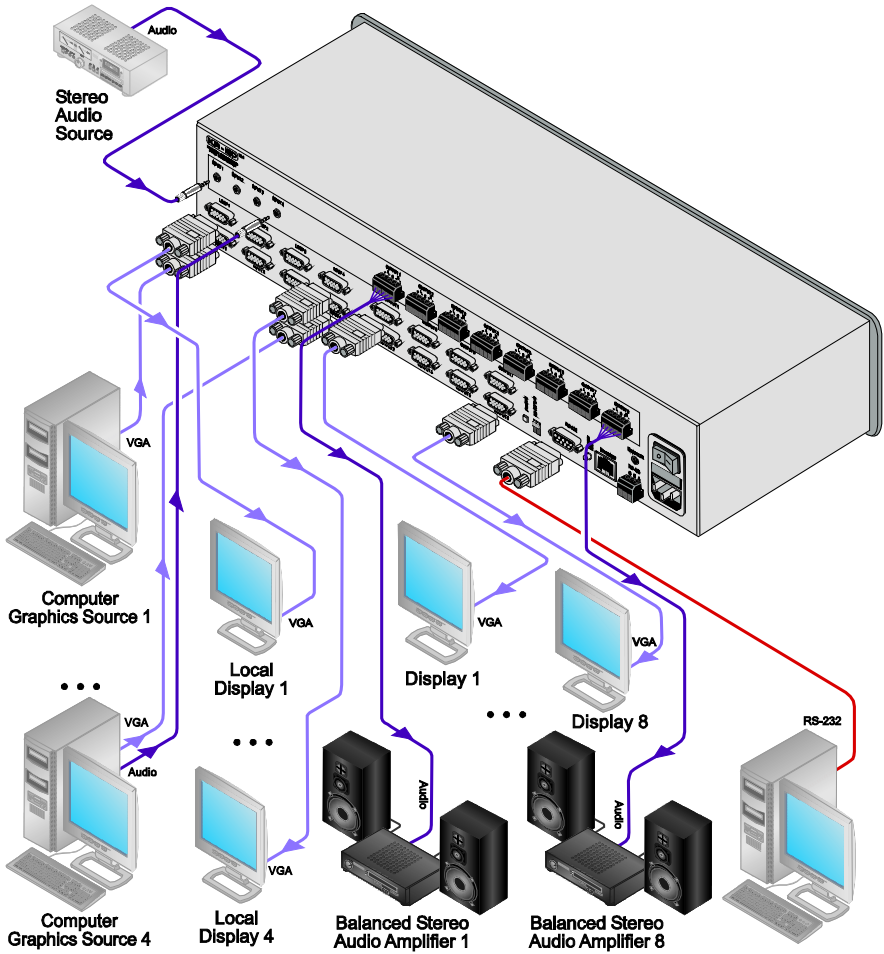

Figure 3: Connecting the VP-4x8AK 4x8 VGA / UXGA / Audio Matrix Switcher
To connect¹ the **VP-4x8AK**, as illustrated in the example in Figure 3, do the following²:
7. Connect the power cord³ (not shown in Figure 3).